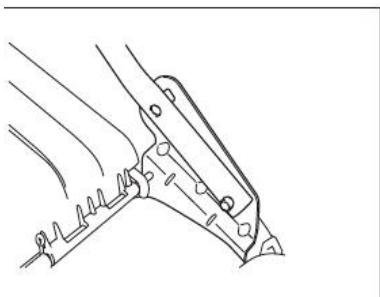

Fig.2A
1. Use the bolt, washer and locking knob to fix the lower handlebars into the unit body. (Fig. 2A/2B)